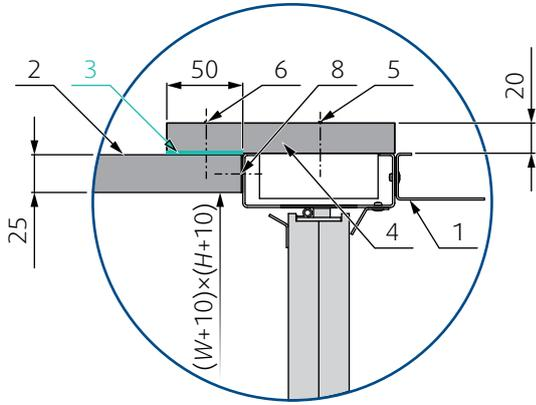

Fig. 46: Cross-section of connection to 25 mm thick board duct
1. Prepare the duct connection or opening as per  Fig. 46 - Fig. 51, clean and flatten the connecting surface.
2. Apply a fire resistive coat (3) on the connection surfaces as depicted in Fig. 46 - Fig. 51.
4. From boards (4 and 7) create a collar overlapping the connection as depicted in Fig. 46 - Fig. 51.
5. Fix the overlapping collar to the damper with screws (5). Fix the collar to the duct by using screws as per instructions of duct system manufacturer.